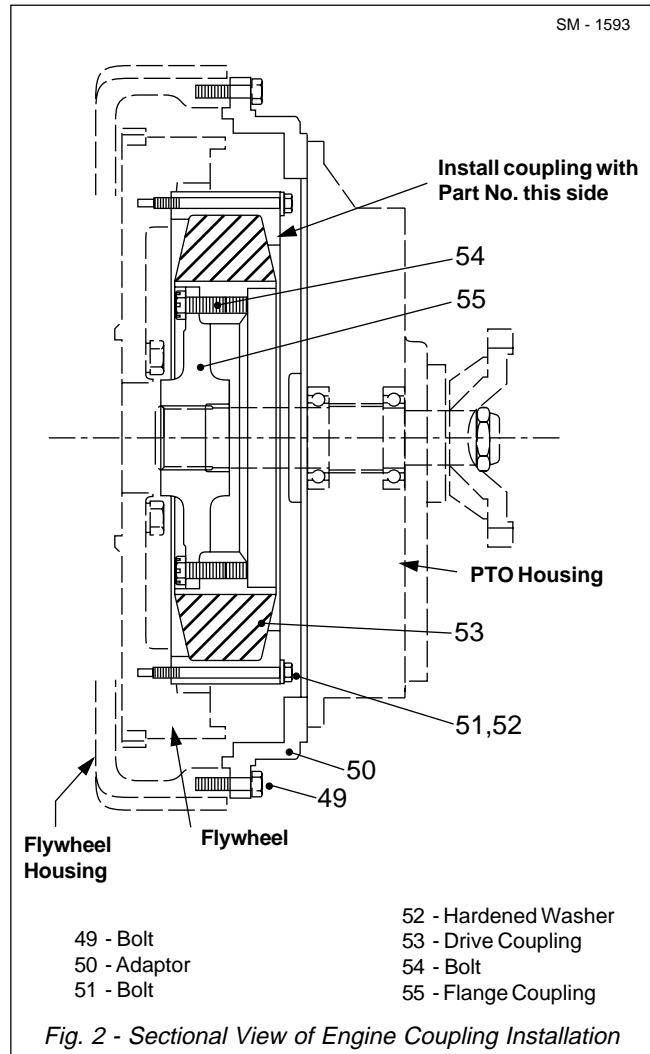
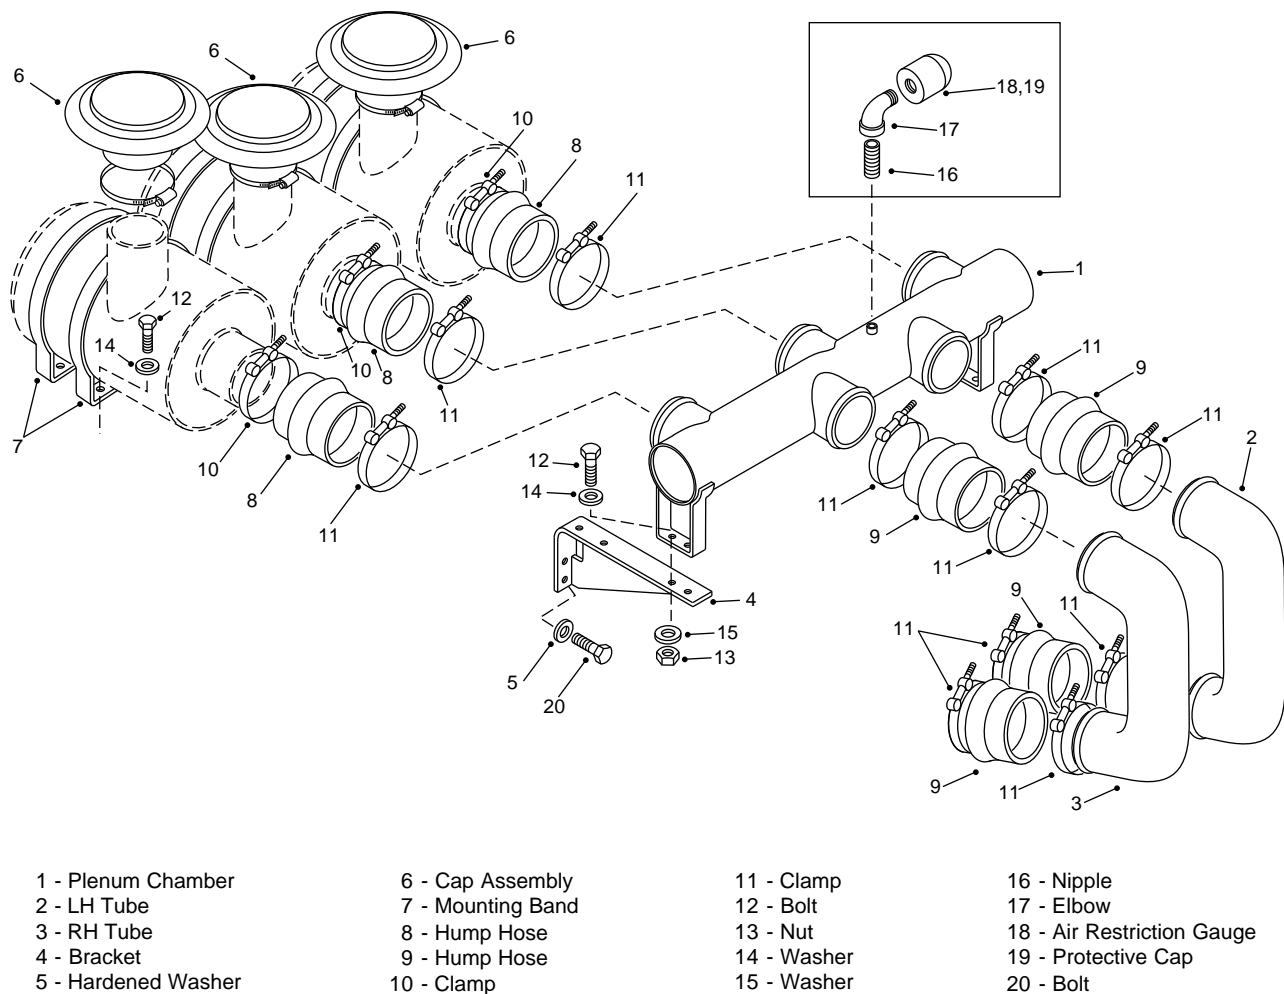

Fig. 2 - Sectional View of Engine Coupling Installation
Fig. 3 - Exploded View of Air Cleaner Mounting
Note: The flange coupling must be installed on the drive coupling side opposite the side that has the part number on it. See Fig. 2.
3. Thoroughly clean and dry threads on bolts (51) and engine flywheel and apply Loctite Activator 'T' to the threads. Apply Loctite 638 to the threads of bolts (51) and engine flywheel. Position drive coupling (53) assembly to engine flywheel and secure with bolts (51) and hardened washers (52). The part number must be facing out. See Fig. 2.
An electrical air restriction gauge (18, Fig. 3) indicates when air restriction levels reach the maximum allowable limit. When air restriction levels are reached,
the circuit closes and a restriction indicator light located on the dash panel (Fig. 2) illuminates. This light shows at a glance when the system air flow is being restricted indicating that primary element (2) should be serviced. Air restriction gauge (18, Fig. 3) automatically resets after each air cleaner assembly is serviced.
Check condition of clamps (10 & 11, Fig. 3), hump hoses (8 & 9, Fig. 3) and plenum chamber (1, Fig. 3). Tighten/replace as necessary.
1. Release latches (5) on cover assembly (4) and remove cover assembly from air cleaner body (1).
2. Remove primary element (2) and safety element (3) from air cleaner body (1).
3. Slacken clamps (10 & 11, Fig. 3) and disconnect hump hose (8, Fig. 3) from air cleaner body (1).
4. Remove bolts (12, Fig. 3) and washers (14, Fig. 3) securing the air cleaner assembly to the platform.
6. Open mounting bands (7) and remove from air cleaner body (1). Open clamp on cap assembly (6, Fig. 3) and remove cap assembly from air cleaner body (1).
7. Blank off air cleaner body (1) outlets with tape or cardboard. Reach inside body with a compressed air nozzle or brush and remove dust from the body.
8. Remove all loose dust from air cleaner body (1) and remove tape or cardboard from body outlets.
Numbers in parentheses refer to Fig. 3.